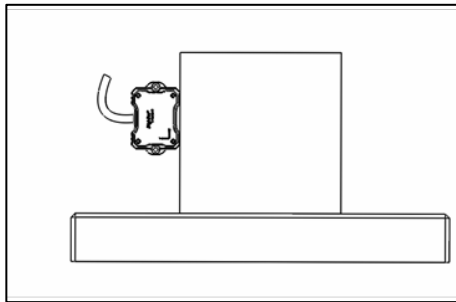

Figure 47. Tilt Sensor Module Position of Calibration Step 5
10. For **DWL5000XY** model, repeat step 3 to step 8. Please locate the sensor module in following positions (refer to Figure 47 to Figure 52) respectively.